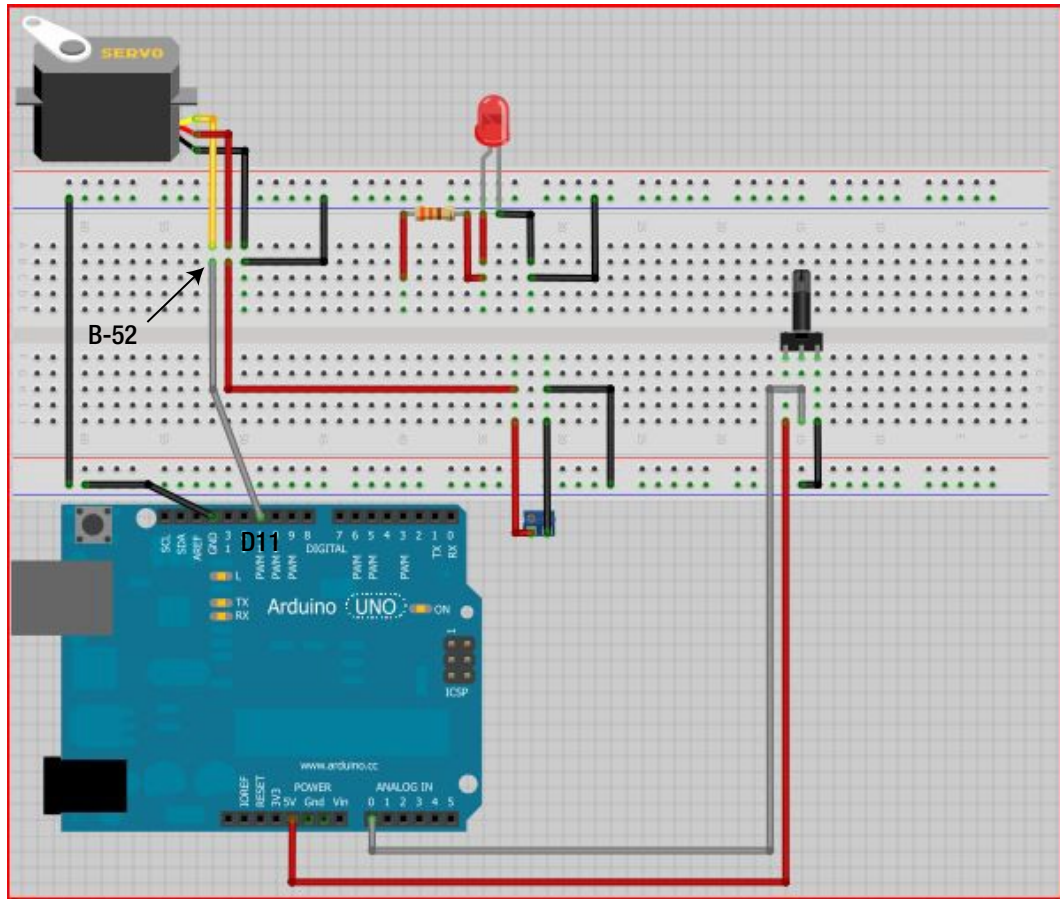

Figure 23-15. Attach digital pin 11 from the Arduino to the signal wire of the servo
14. Connect digital pin 11 (D11) on the Arduino to the signal wire of the servo at B-52. Again, we used a green wire, but you can use any color you like. Figure 23-15 illustrates this process.